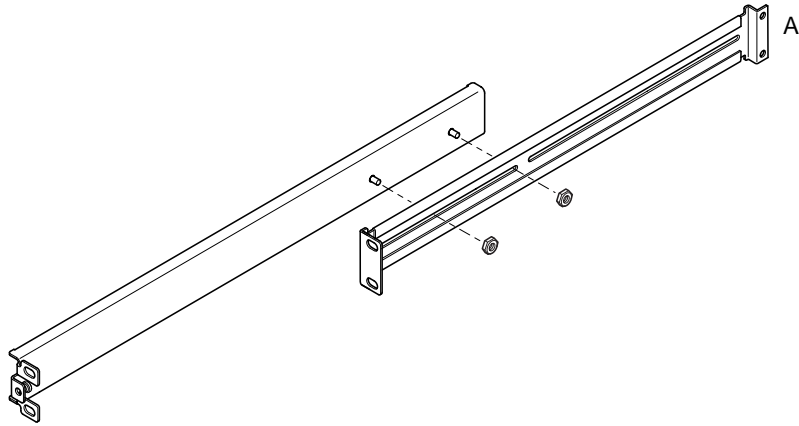

FIGURE 5-2 Positioning the Slide Mounts for a Sun StorEdge 72-Inch Tall Rack
1. Position the two parts of the slide so that the double-angled ear (A) is in the correct position for the rack you are installing into.
- For the Sun 72-inch tall (19-inch wide) rack, the double-angled ear (A) must be to the rear (see FIGURE 5-2).